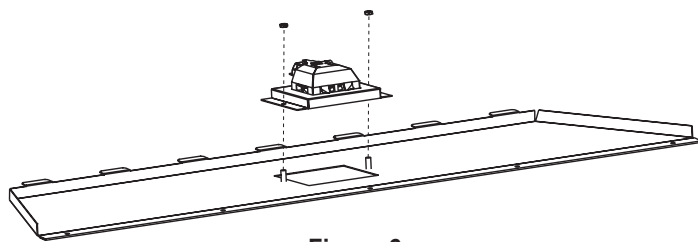

Figure 6
6. Secure the light kit bracket to the inner firebox top with the two nuts removed in Step 5. **See Figure 6.**